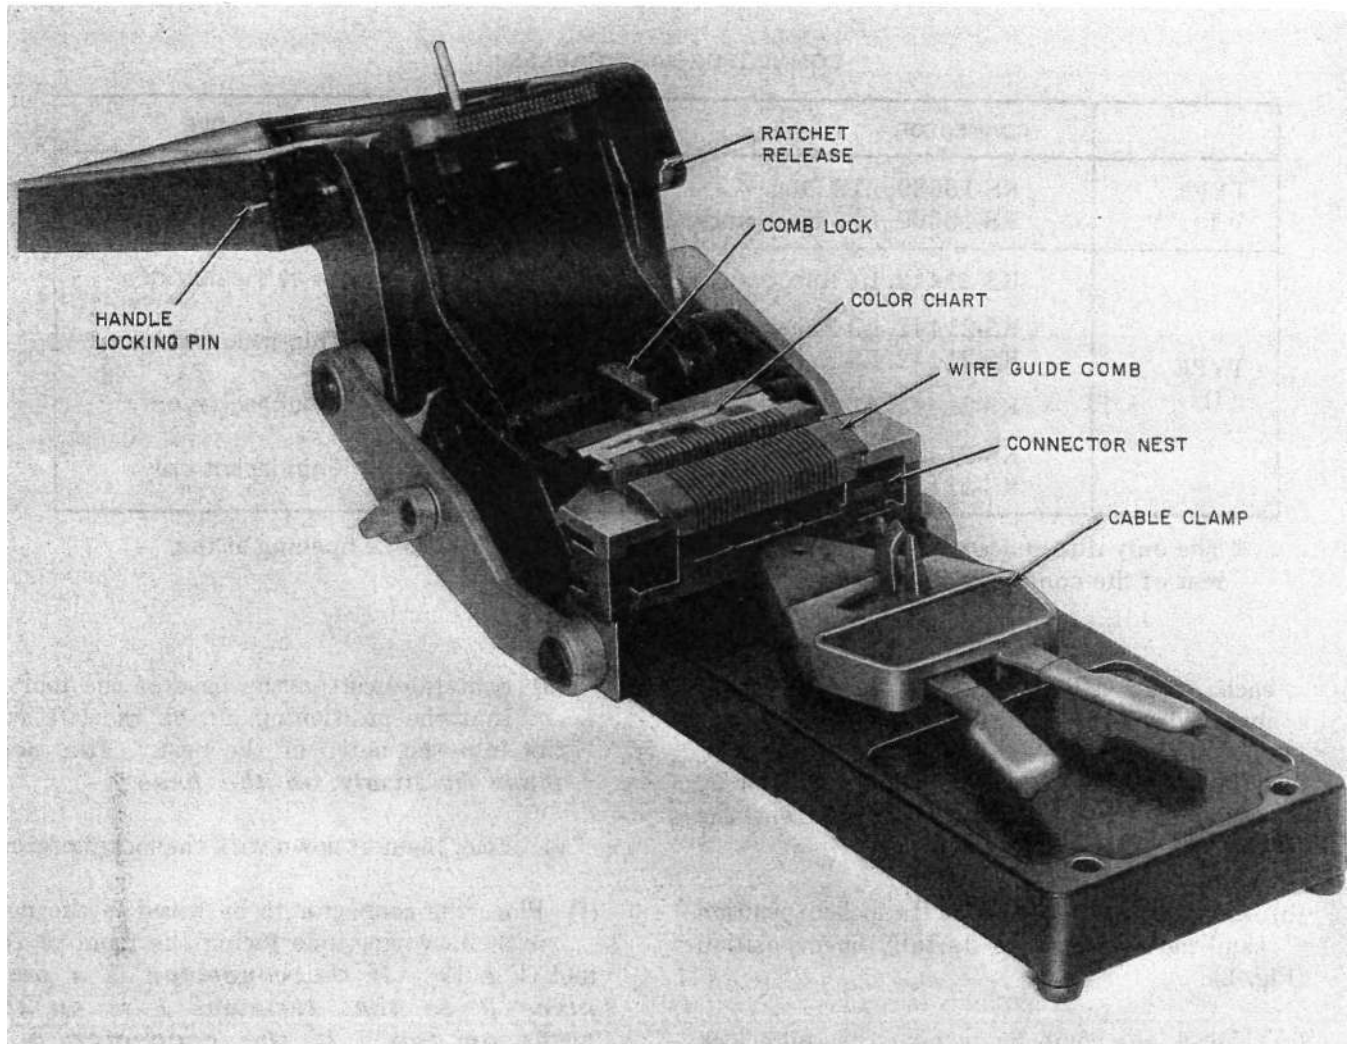

Fig. 2—KS-21749 Connecting Tool, Front View With Handle Open
- (b) Lift the handle up from its locked position and move it back to its fully open position (Fig. 2).
- (c) Unlock the comb by turning the comb lock to the right (Fig. 2).
- (e) Look at the connector nest (Fig. 2) to determine if it is in the correct position for the connector being wired. Table C lists the proper nest positions for the various connectors. "TYPE 1" or "TYPE 2" will be visible facing upward on the right side of the nest (Fig. 11 and 12). If the nest is in the correct position, go directly to step (f). If it is not, perform the following procedure first:
*Note:* After the handle ratchet engages and starts to click, the handle cannot be reversed until the connection operation is complete or unless the ratchet release is opened (Fig. 2).